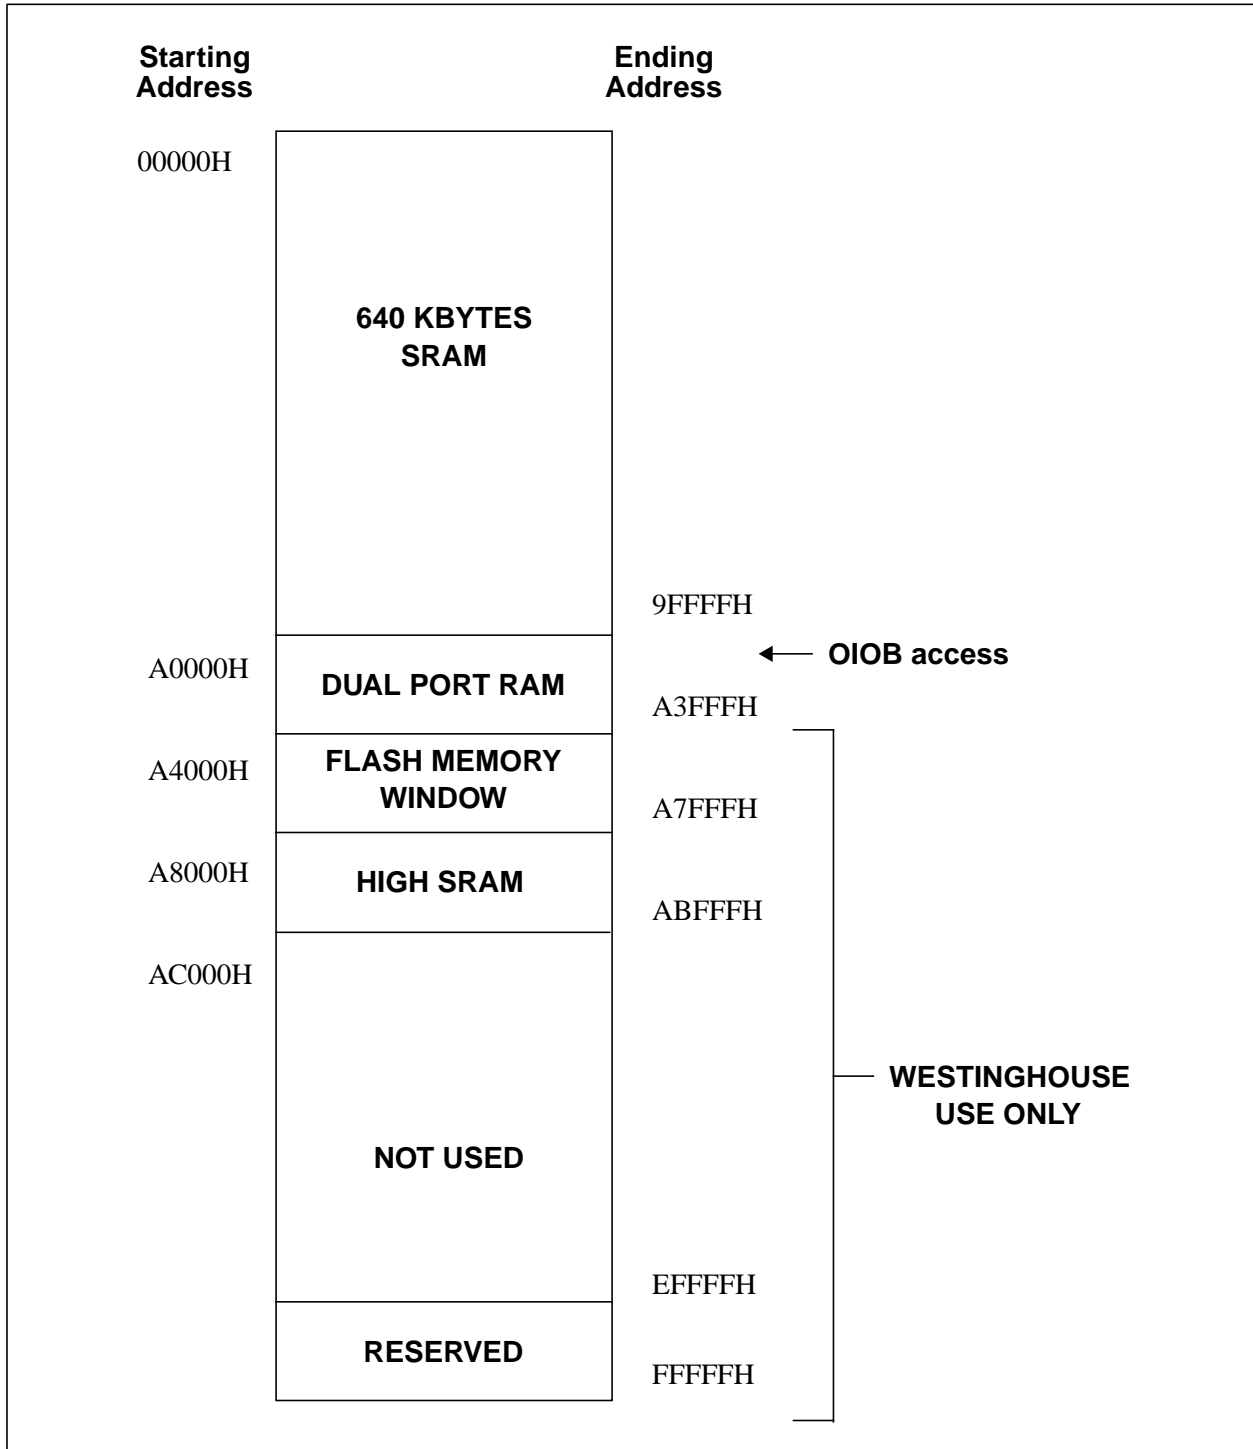

Figure 4-5. LC Memory Map
8. Figure 4-5 provides a memory map for the 80C186EC processor. Note the following points: